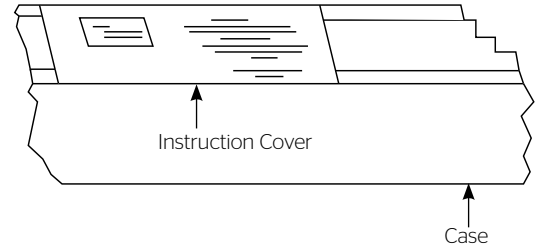

Figure 2
3. Remove instruction cover plate (Fig. 2). Do not remove wrapping paper or tape strips until screen is installed.